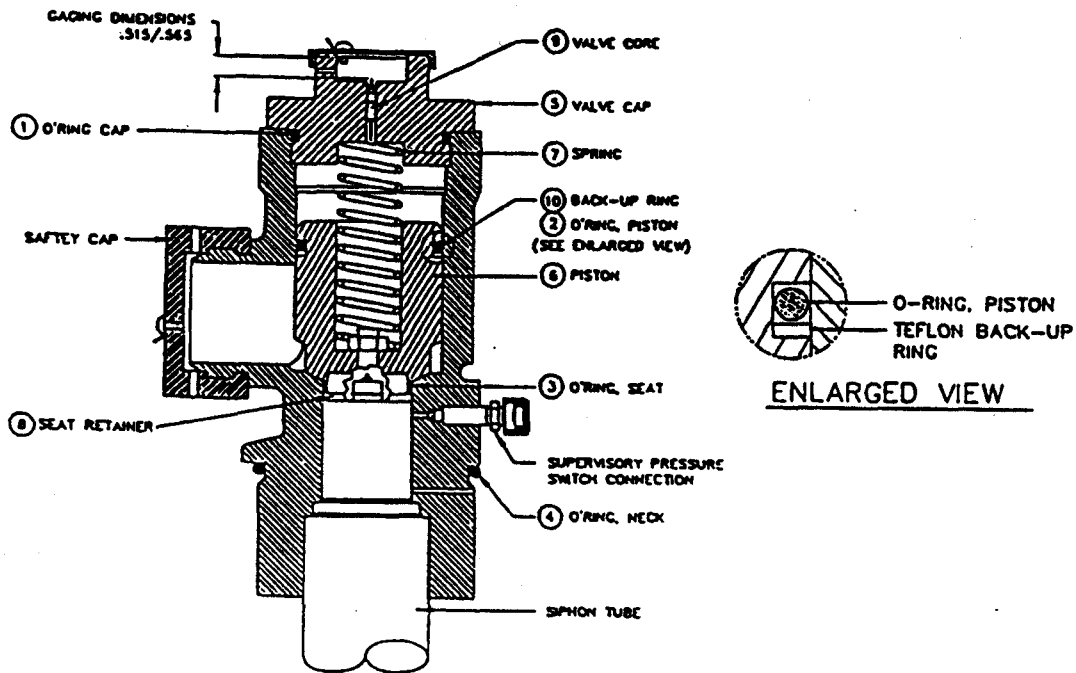

Figure 6.8.1 - Valve Assembly
6.8.2 Valve Disassembly (Refer to Figure 6.8.1, Table 6.8.1).
After reinstalling a Schraeder core, the distance from the top of the core pin to the control head seating surface must fall between the dimensions of 0.515" to 0.565" (13 mm to 14 mm) when in the "shut" or non-actuated position (See Figure 6.8.1).
6.8.3 Valve Assembly (Refer to Figure 6.8.1).
Make certain that the Teflon backup ring is below this o-ring as shown in Figure 6.8.1.